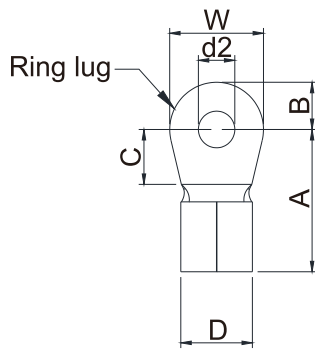
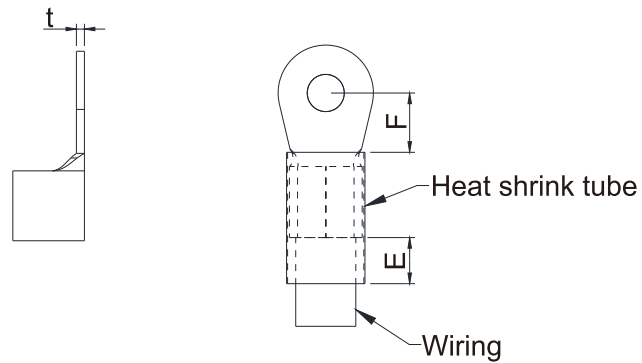

Fig.1
Fig.2
- Use the specified ring lug for main circuit terminal wiring. See Fig.1 and Fig.2 for ring lug specifications. For other types of wiring use the wires that comply with the local regulation.
- After crimping the wire to the ring lug (must be UL approved), UL and CSA approved R/C (YDPU2/8), install heat shrink tubing rated at a minimum of 600 V_{AC} insulation over the live part. Refer to Figure 2 below.